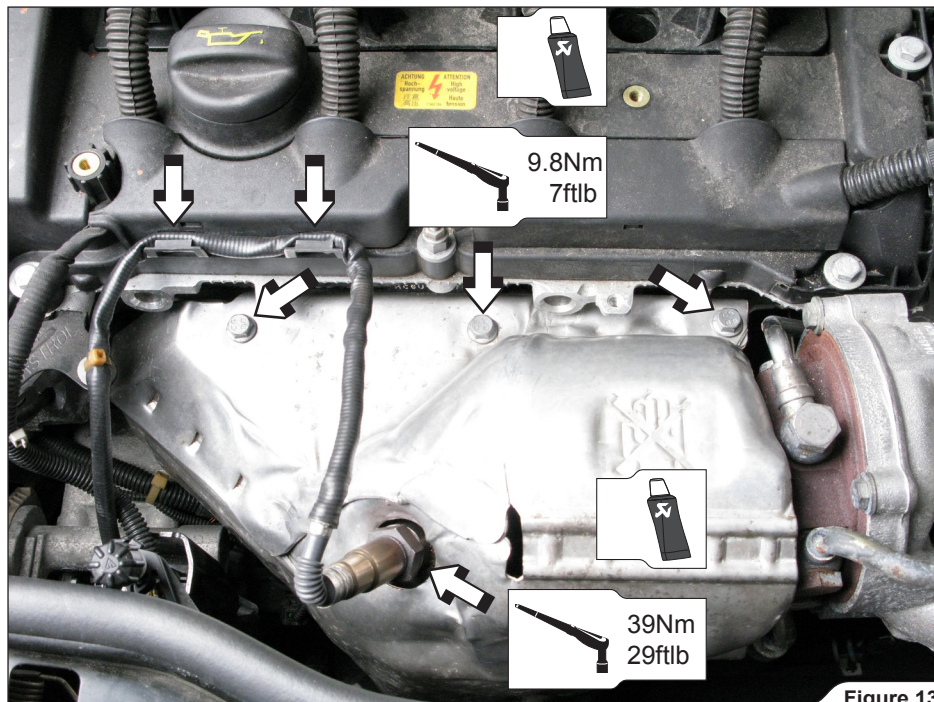

Figure 13
2. **For Optional Down Pipe only:** install the original upper heat shield and lambda sensor (Figure 13). Fasten the lambda sensors' electrical lead.